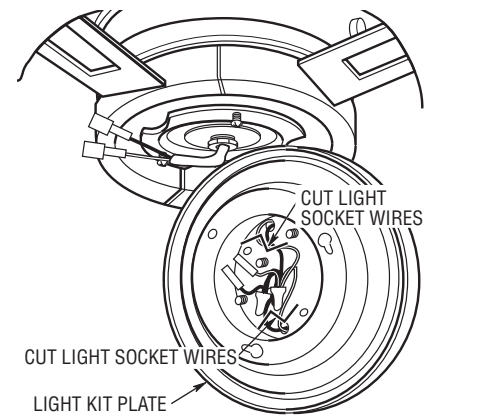

Figure 19
3. Cut light socket wires using wire cutters. Unscrew the screws that is securing the socket plates to the light kit plate. Pull socket wiring through light kit plate holes to completely disengage the light sockets from light kit plate (Figure 19).